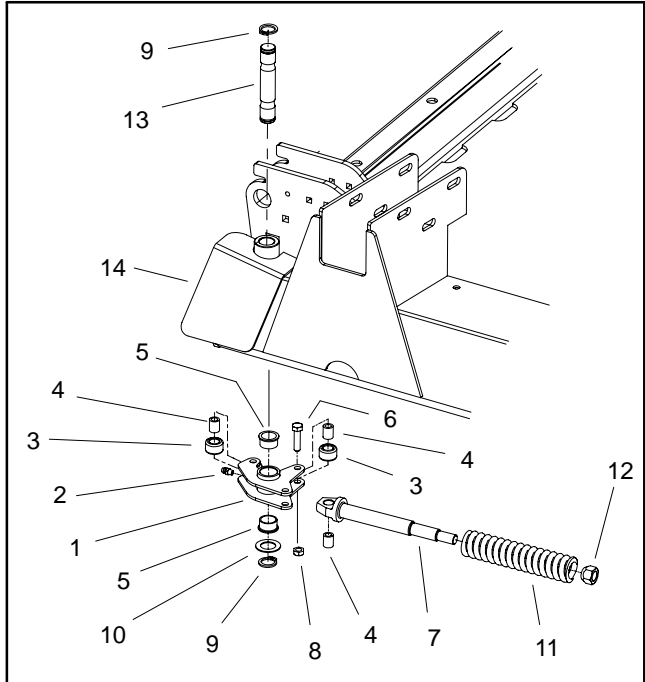

Figure 12
Disassembly (Fig. 12)
5. Disassemble latch (items 1 through 8) using Figure 12 as a guide.
Assembly (Fig. 12)
1. Assemble latch (items 1 through 8) using Figure 12 as a guide.